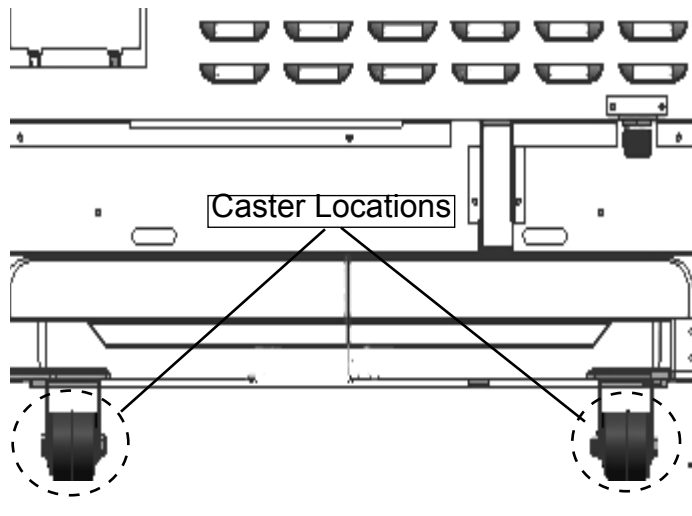

FIGURE 22: CASTOR LOCATIONS
1. Each range has a pair of casters adjacent to the rear legs (see *Figure 22*). The casters make moving the range easier by slightly lifting the front and allowing the casters to glide the range back towards its installed position.
2. The range has (4) leveling legs that are threaded into the cast aluminum base structure. The range is leveled by rotating the legs using an 12" (305mm) adjustable wrench on the flat sides of each foot.